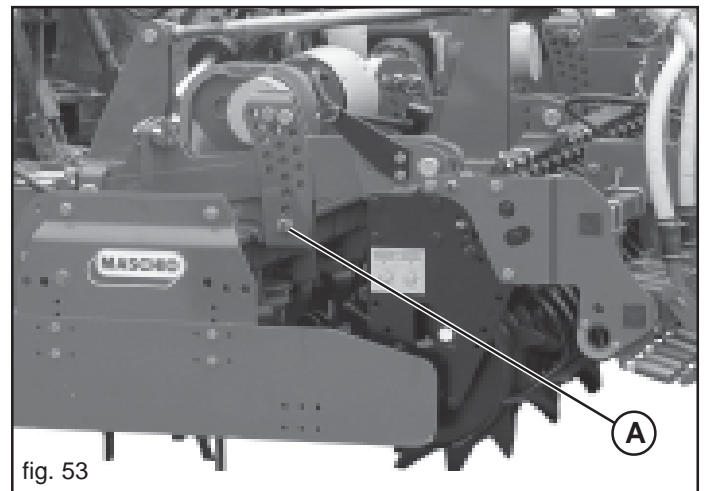

fig. 53
**Before carrying out the closing procedure, ensure that the pins (A) of the lower limit stop, of the rear rollers of the rotating harrow, are in the lowered position, as shown in Figure 53.**